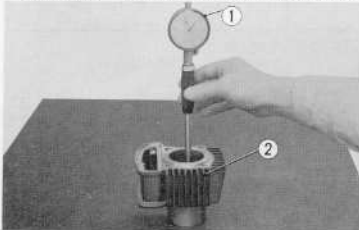

Fig. 3.51 Measuring the cylinder bore
- Measure the cylinder bore, taper, out-of-round with a precision cylinder gauge ①. Take the measurement at the top, middle and bottom in both the X and Y axes. (Fig. 3.51)